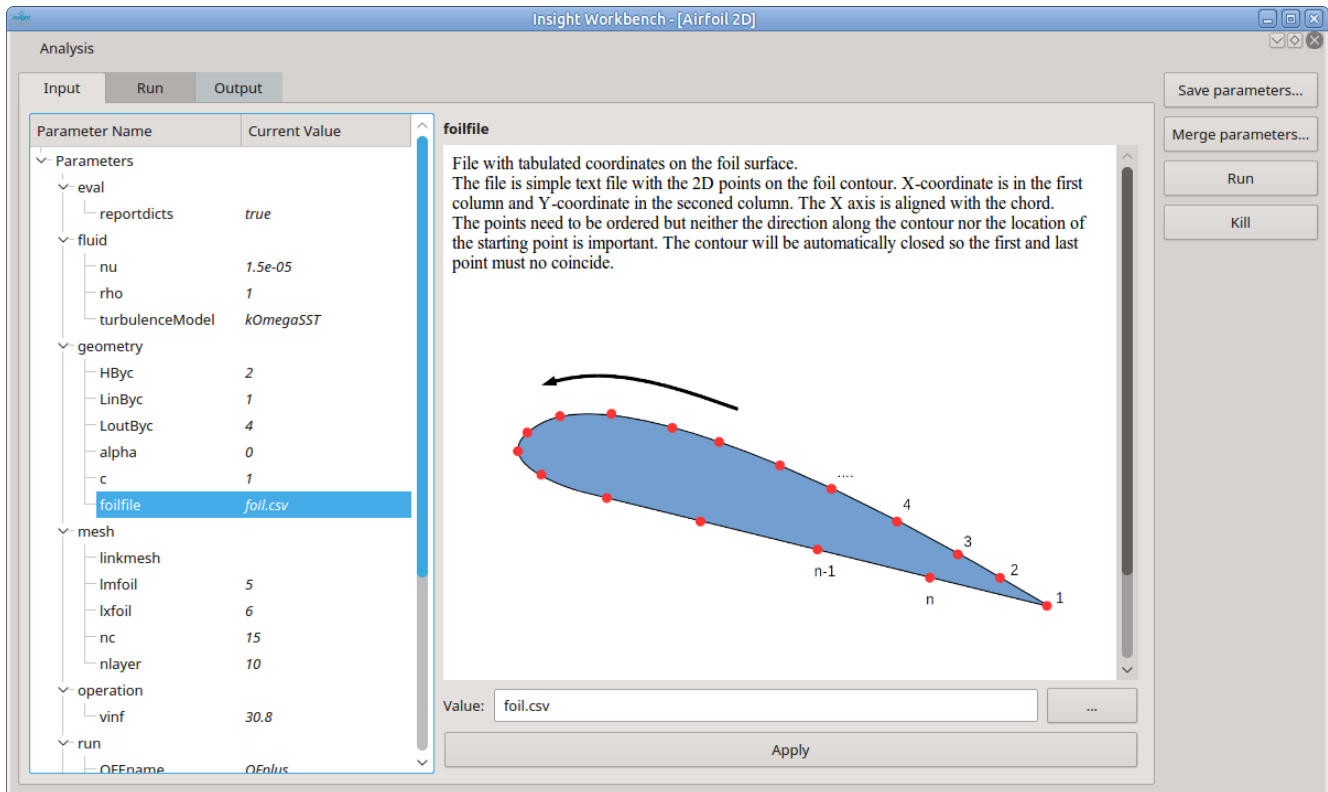

Figure 7: Parameter editing tab of the workbench
**Editing the Input Parameters** The parameter input tab is shown in figure 7. On the left, there is a tree view showing all the available parameters of the analysis. The font display style of the parameter entry denotes the importance of the parameter: